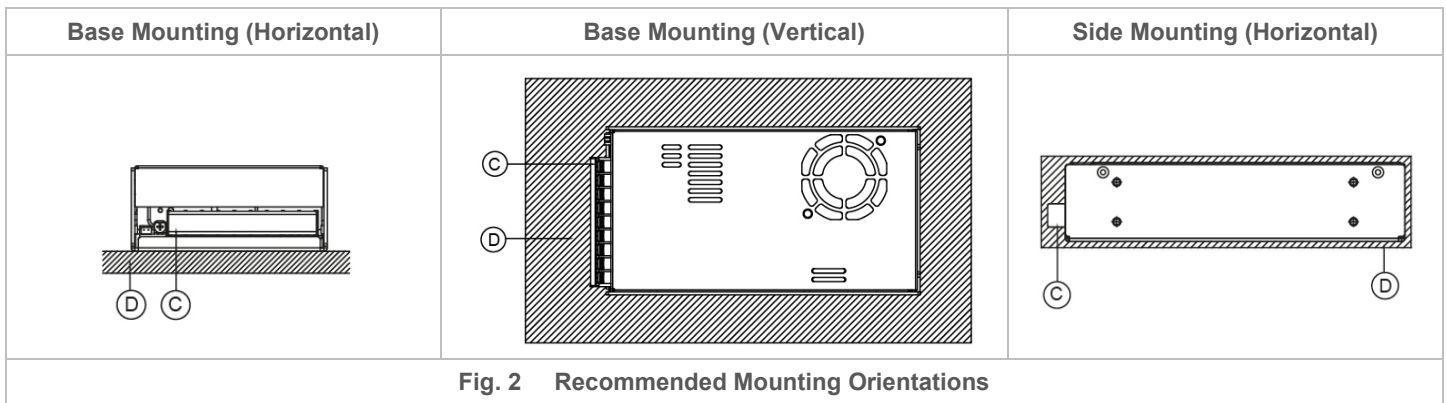

Fig. 2 Recommended Mounting Orientations
- Ⓐ Side Mounting: Fig. 2 and Fig. 3 show the mounting hole locations for power supply assembly onto a metal mounting surface. The power supply shall be mounted on minimum of 4 mounting holes using M4 screw of maximum 5 mm length (Refer to Fig. 4). This is to maintain a safety distance between the screw and internal components.
- Ⓑ Base Mounting: Fig. 2 and Fig. 3 show the mounting hole locations for power supply assembly onto a metal mounting surface. The power supply shall be mounted on minimum of 4 mounting holes using M4 screw of maximum 4 mm length (Refer to Fig. 4). This is to maintain a safety distance between the screw and internal components.